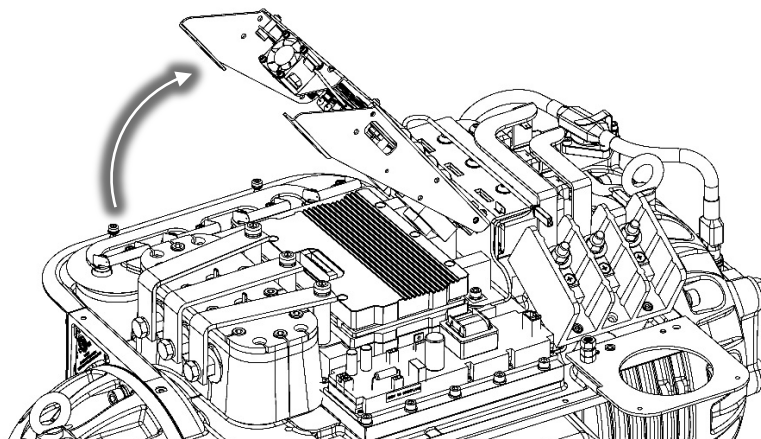

Figure 4 – Soft Start Lift
- Lift the Soft Start and turn it over, placing it board-side up on the AC Bus Bars. Refer to Figure 4 (Soft Start Lift).